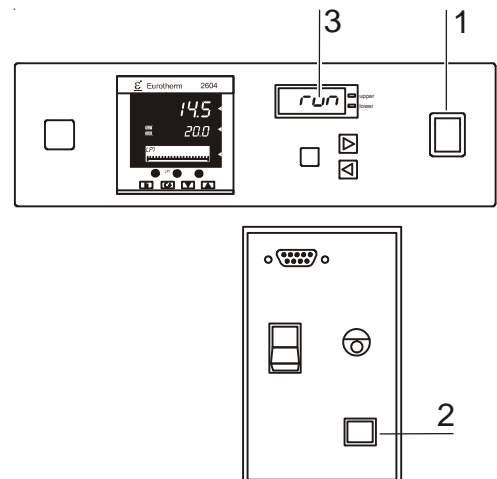

Fig. 25,
1. **Fig. 25:** Switch the storage cabinet on using the power switch [1]. The switch is now in position **ON**.